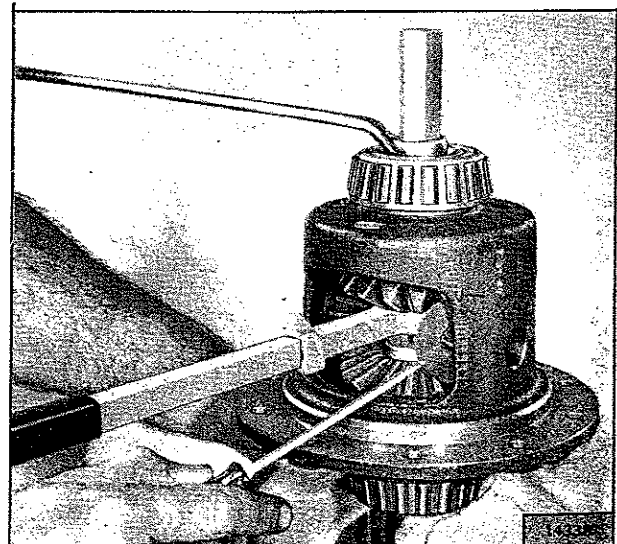

FIG. N-56—INSTALLING PINION MATE WASHERS
p. Assemble washers into case. Use a very small screw driver to push washers into place, as shown in Fig. N-56.